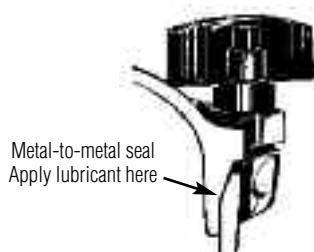

Fig. 1
1. METAL-TO-METAL SEAL. (See Fig. 1) Periodically check your seal. The metal-to-metal seal must be lubricated periodically (as stated in the instructions) to prevent the cover from sticking to the bottom because of dryness or lack of lubrication. If the sterilizer is operated without any lubricant, this could result in severe damage to the metal-to-metal seal and make it very difficult to remove the cover in some cases, and also become very difficult to maintain a steam-tight seal. It is recommended that a small amount of high temperature lubricant, such as high vacuum grease, be applied every third or fourth use. The metal-to-